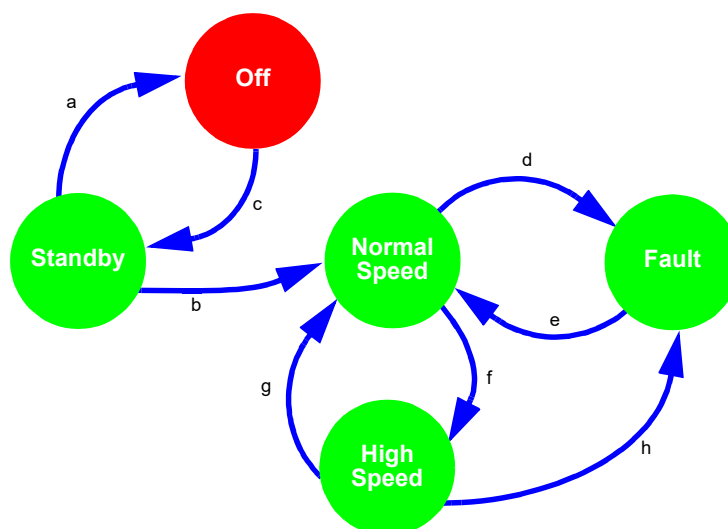

Figure 95: Asynchronous State Machine State Transitions
The Asynchronous State Machine macrocell is one of several macrocells in the Asynchronous State Machine Subsystem, and its specific role is to hold one active state at a time, and to facilitate user defined state transitions in a fast and power efficient manner. This macrocell is designed to allow the user to create state machines with between 2 to 12 states. When combined with the other macrocells in the ASM subsystem [four Dynamic Memory (DMx\_x) macrocells, three Matrix Interface (MIx) macrocells, and one f(1) Computation Macrocell], the user has flexibility to define the available states, the available state transitions, and the input signals (a, b, c ...) that will cause transitions from one state to another state, as shown in the example in Figure 95.